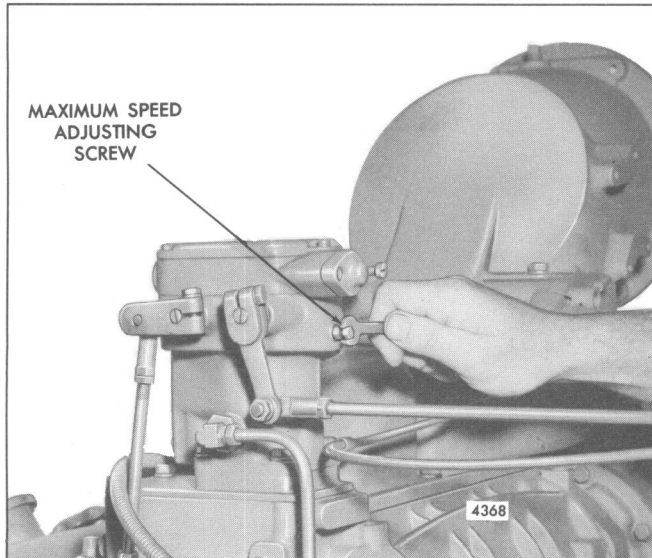

Fig. 9 – Adjusting Maximum No-Load Engine Speed
6. Loosen the locknut on the maximum speed adjusting screw and turn the screw out until 5/8" of the threads are exposed (Fig. 9).
2. Turn the maximum speed adjusting screw (Fig. 9) in until the screw contacts the throttle linkage internally, limiting the maximum speed of the engine at 8% above the rated full load speed.